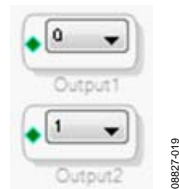

Figure 19. Output Cells
- Click and drag an output cell to the schematic. Repeat so there will be two outputs (see Figure 19).